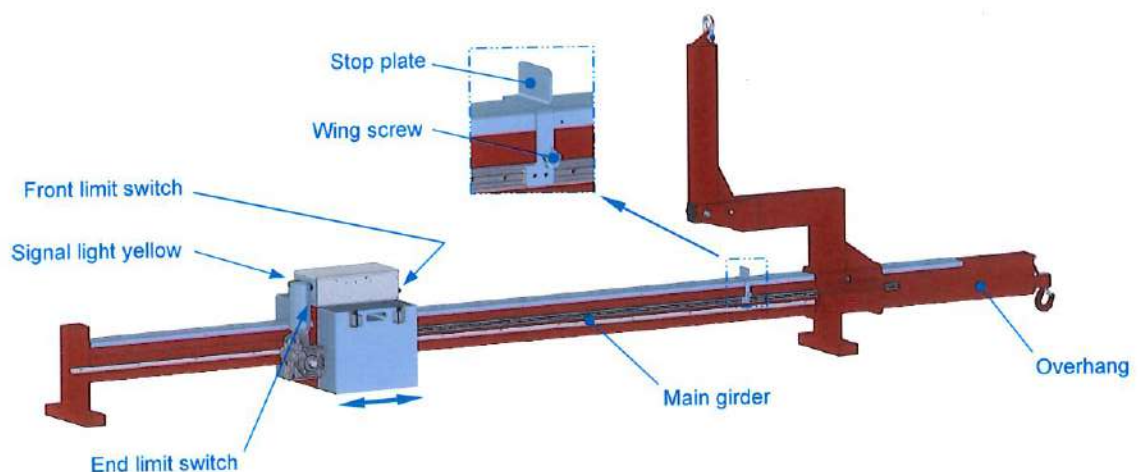

Fig. 11: Stop plate and yellow signal light
- ⇒ Position the stop plate (s. Fig. 11) as follows:
- ⇒ Release the wing screw of the stop plate (s. Fig. 11) and push the stop plate onto the travelling cage until the front limit switch is triggered. The yellow signal light turns off. Firmly retighten the wing screw.